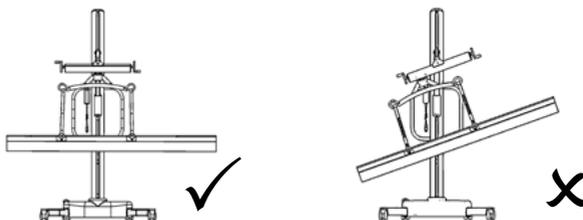

Fig. 4
Do not attempt to lift the patient if the patient's weight is off centre balance (see Fig.4).
**Do not attempt to lift the patient if the patient's weight is off balance (see Fig. 4, page 4)**